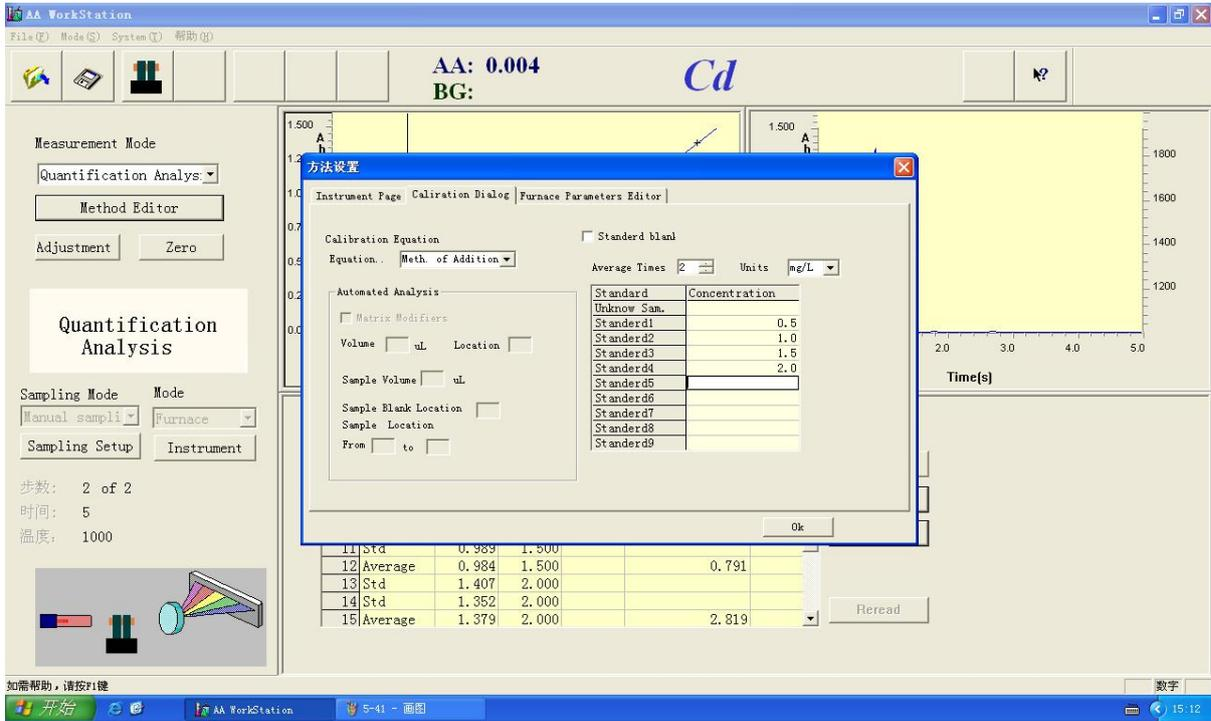

Figure 5-54
5. Select the "Meth.of Addition Nonlinear" in the "Calibration Equation", figure 5-54